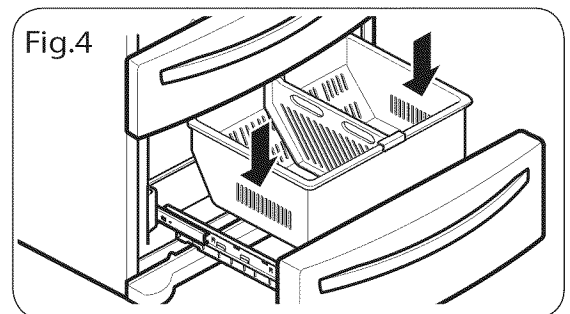

Fig.4
- With the drawer pulled out to full extension, insert the lower basket in the rail assembly. (Fig.4)